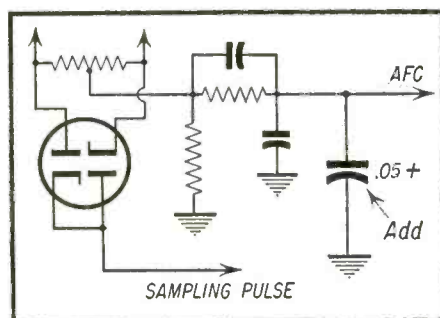

Fig. 5—Suggested repair for modulation fed back to *afc* circuit.
3. Department store sets sold under various names use a phase detector *afc* and the remedy for weave is the addition of an .05 μ f condenser across the developed control voltage. See Fig. 5. The modulation is picked up in the yoke and fed back through the sampling voltage to the *afc* circuit.